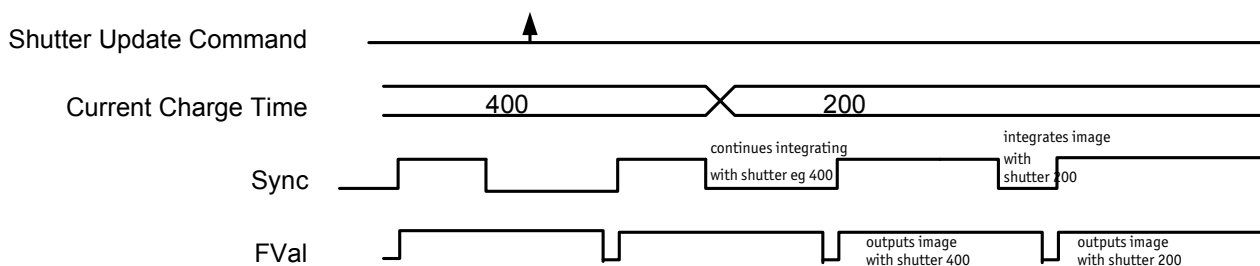

Figure 58: Marlin update timing
- The delay from shutter update until the change takes place: up to 3 frames. Figure 58: Marlin update timing on page 98 demonstrates this behavior. It shows that the camera receives a shutter update command while the sensor is currently integrating (Sync is low) with shutter setting 400. The camera continues to integrate and this image is output with the next FVal. The shutter change command becomes effective with the next falling edge of sync and finally the image taken with shutter 200 is output with a considerable delay.